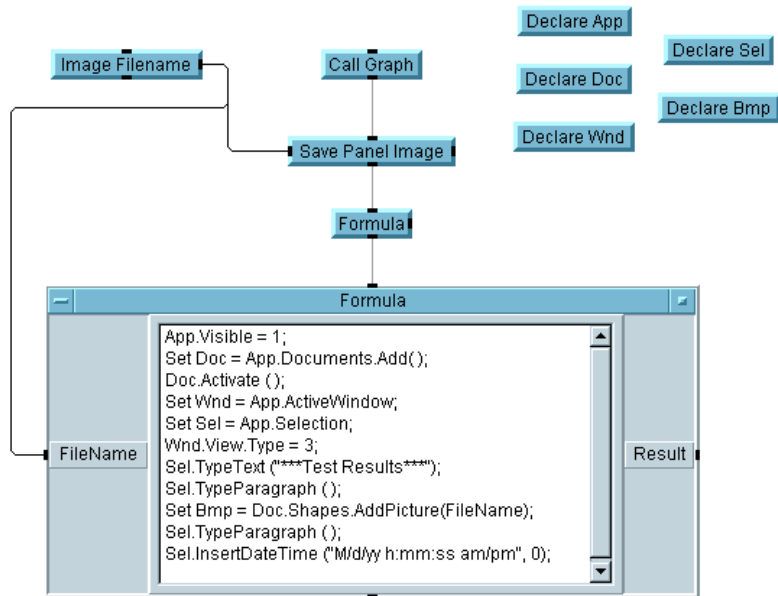

Figure 6-16. Adding the ActiveX Statements
7. Click Device ⇒ Formula and enter the statements shown in Figure 6-16, which are also described below. Rename input terminal A to FileName. Connect the data input and sequence input pins as shown in Figure 6-16.
In Figure 6-16, notice that you can nest property and method calls together with the `Object`'s dot notation. Refer to ActiveX documentation to find the right properties in the target applications. You can use the properties and methods described in this chapter to begin generating test and measurement reports. The entries in the `Formula` object are as follows: